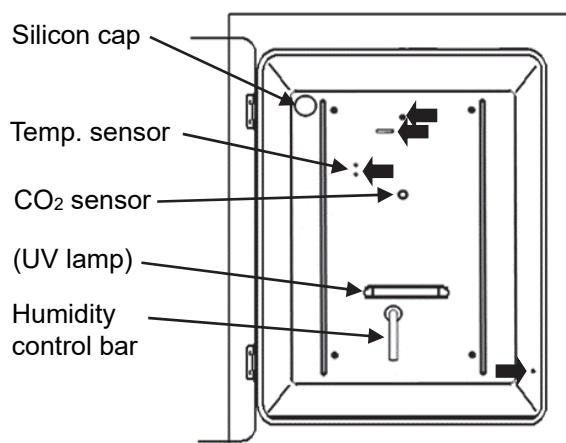

Fig. 2
Be careful to keep the diluted detergent or water out of the temperature sensor, the CO₂ gas injection hole, the fan motor shaft bearing, and the inner sample air outlet (marked on Fig. 2 by ←). Also, do not wash the temperature sensor, CO₂ sensor and the UV lamp using detergent. Doing so may cause failure.
3. Pull out the humidifying pan (Fig. 2).